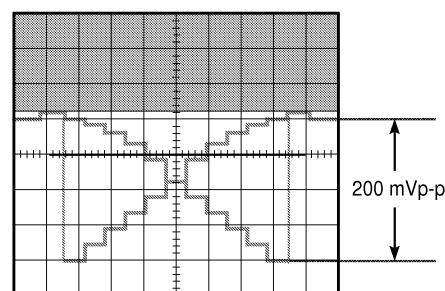

Fig. 3-2
- Set the Lens Iris so that the peak level of the Gray Scale from the Blanking level becomes 200 mVp-p as shown in Fig. 3-2.